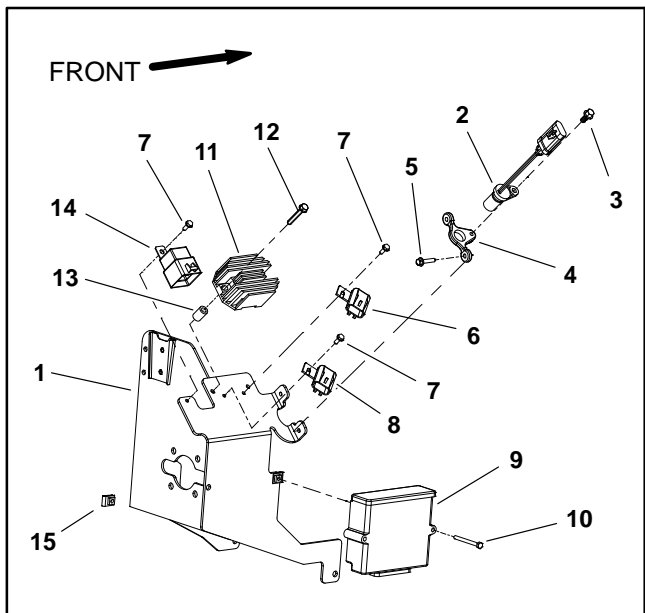
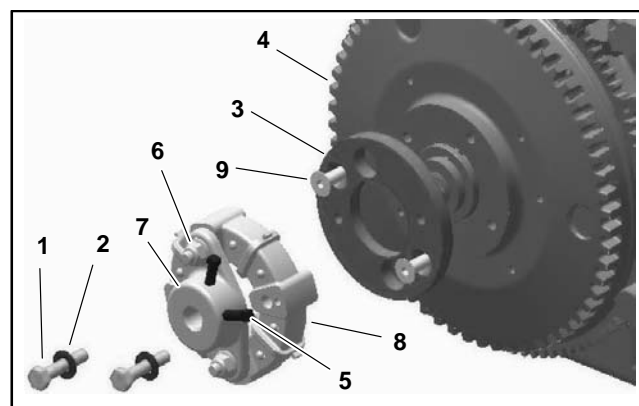

Figure 25
Figure 26
B. Either disconnect engine wire harness connectors from all electrical components on pump mount or remove electrical components from pump mount (Fig. 25).
C. Remove the two (2) screws that secure sensor mount and pump mount to engine (Fig. 25).
20. If necessary, remove hydraulic pump coupler assembly from engine flywheel (Fig. 26):
2. If removed, install hydraulic pump coupler assembly to engine flywheel (Fig. 26):
- B. Secure pump hub to rubber coupler with two (2) cap screws and flange nuts. Make sure that nuts are located at pump hub.
- C. Apply medium strength thread locker to cap screws that retain rubber coupler to pump coupler adapter on flywheel. Secure rubber coupler and pump hub assembly to pump coupler with two (2) cap screws and flat washers.
- A. Position pump mount to engine and loosely install two (2) flange head screws into engine base.
- B. Secure sensor mount and pump mount to engine with two (2) screws (Fig. 25). Then, fully tighten flange head screws to secure pump mount to engine base.
- C. Make sure that all electrical components are secured to pump mount and then connect engine wire harness connectors to all components (Fig. 25).